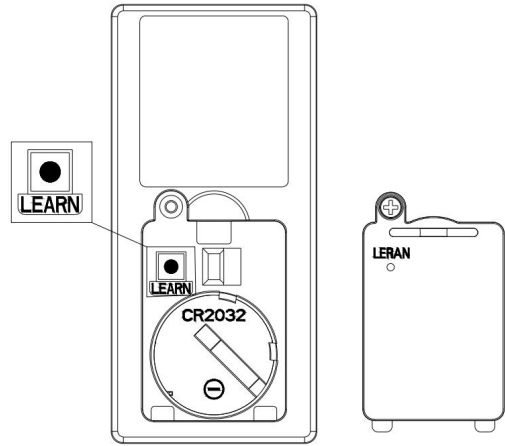

FIG. 3
HANDSET TRANSMITTER OPERATION (FIG. 3)
1. Activating the Learning process: Within 30 seconds of turning the fan's AC power ON, press and hold the LEARN button (on the back of the transmitter) for 3 seconds to enter the learning function. Refer to FIG. 3. Fan will turn on 30 seconds then off and down light (if installed) will blink three times. This confirms that the SMART SYNC setting is active and ok.